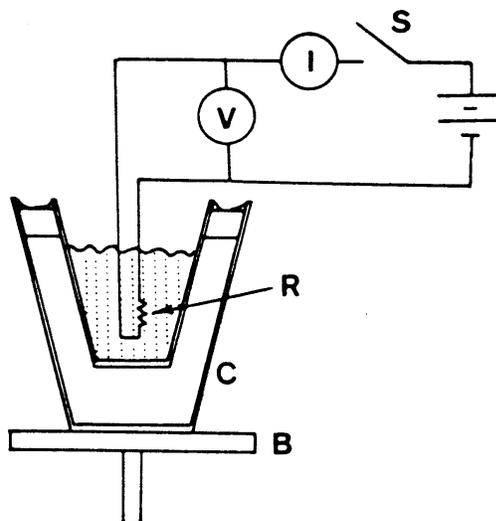

Figure 1: Schematic of the apparatus. The letters refer to: B, balance pan; C, stainless steel dewar; I, ammeter; V, voltmeter; S, switch; R, resistor.
1. Set up the apparatus as shown in Figure 1. You will use two multimeters: one as an ammeter and one as a voltmeter. What is the rated power dissipation of the resistors? If you turn on the power supply to test the circuit, be careful not to exceed the power rating of the resistors. Otherwise you will get some smoke and melt the solder connections!